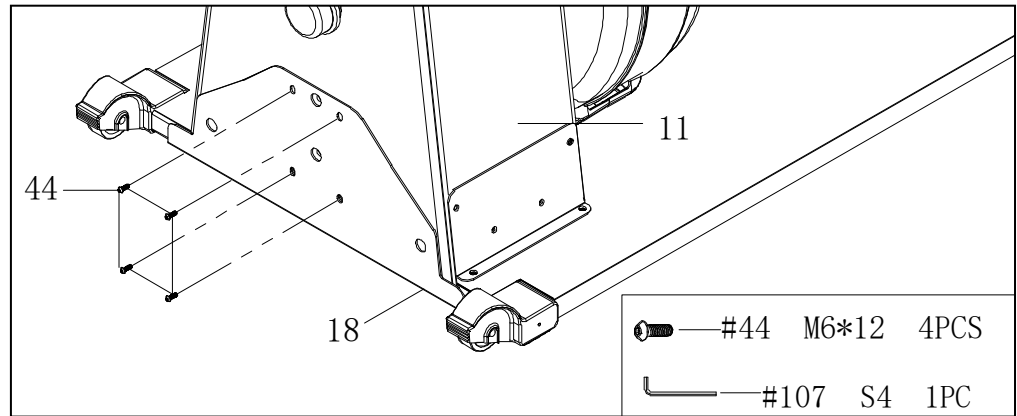

Fig. 9
4. Fix the strengthening plate (18) to the main frame (11) with four bolts (44) (Fig. 9).
5. Position the main frame (11) in a vertical position.